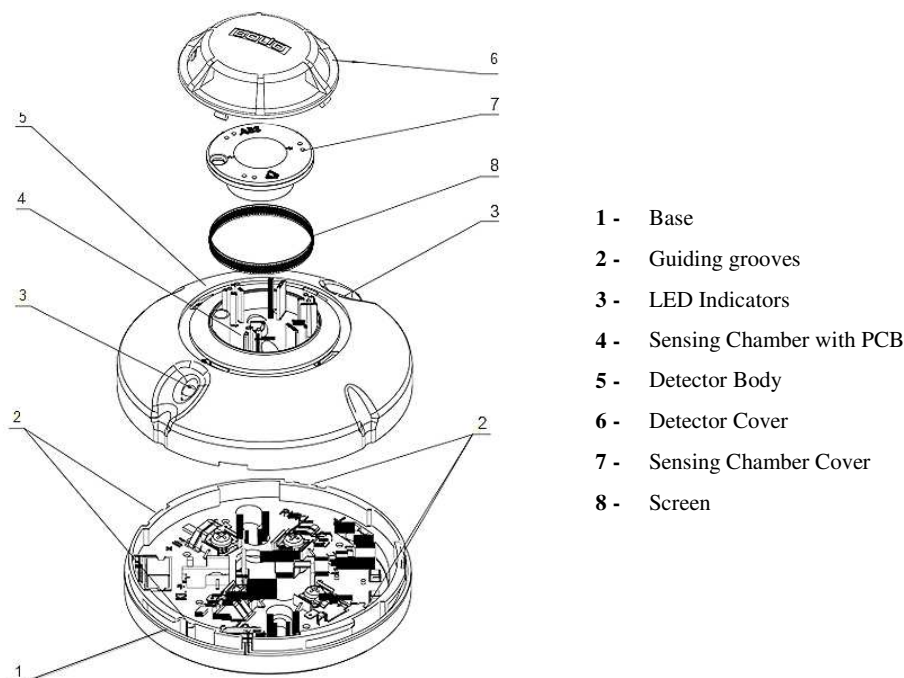

Figure 1
The essential parts of the DIP-31 detector are as follows (see Figure 1): the detector base (Position 1) with guiding grooves (Position 2), two light emitting indicators (Position 3), the printed circuit board and the sensing chamber (Position 4), the detector body (Position 5), the detector cover (Position 6), the sensing chamber cover (Position 7), and the screen (Position 8).
- 2) Remove the detector cover (Figure 1, Position 6) from the detector body by holding it by the stiffeners and rotating it slightly counterclockwise. Then take out one-by-one the sensing chamber cover (Figure 1, Position 7) and the screen (Figure 1, Position 8).